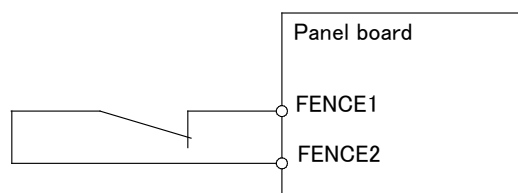

**Fig. 3 (a) Safety fence and safety gate**
- (13) In the first operation of the robot after installation, the operation should be restricted to low speeds. Then, the speed should be gradually increased to check the operation of the robot.
- (14) Before the robot is started, it should be checked that no one is in the area of the safety fence. At the same time, a check must be made to ensure that there is no risk of hazardous situations. If detected, such a situation should be eliminated before the operation.
- (15) When the robot is used, the following precautions should be taken. Otherwise, the robot and peripheral equipment can be adversely affected, or workers can be severely injured.
- (16) When connecting the peripheral devices related to stop(safety fence etc.) and each signal (external emergency , fence etc.) of robot. be sure to confirm the stop movement and do not take the wrong connection.
- (17) When preparing trestle, please consider security for installation and maintenance work in high place according to Fig.3 (c). Please consider footstep and safety belt mounting position.